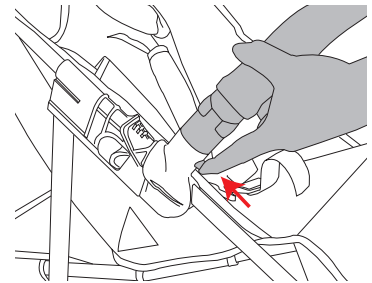

Figure 17
- To remove the bumper bar, press the buttons located on the underside of both male fittings inward and pull the bumper bar away from the seat. See Figure 17.